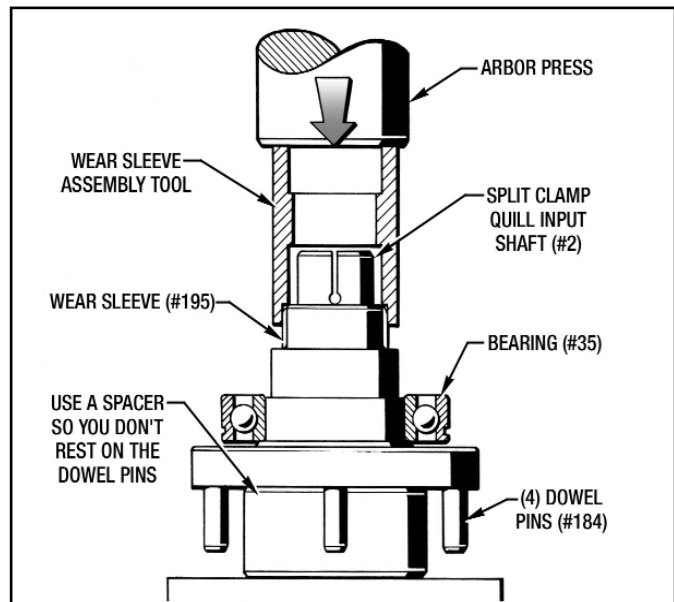

Figure 9.3 - Installing Wear Sleeve (#195) on Quill Shaft
2. With an arbor press and the appropriate Assembly Tool, install the Wear Sleeve (#195) onto the Input Shaft (#2) as shown in Figure 9.3.